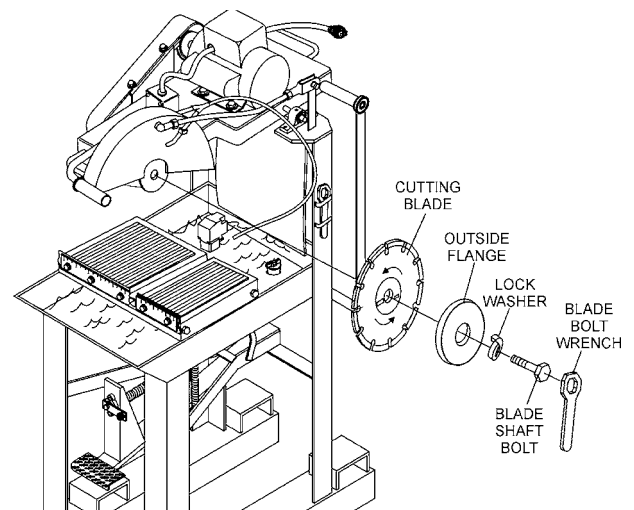

Figure 9. Blade Installation
1. Use the **blade nut wrench** (Figure 9) supplied with the saw to install the cutting blade